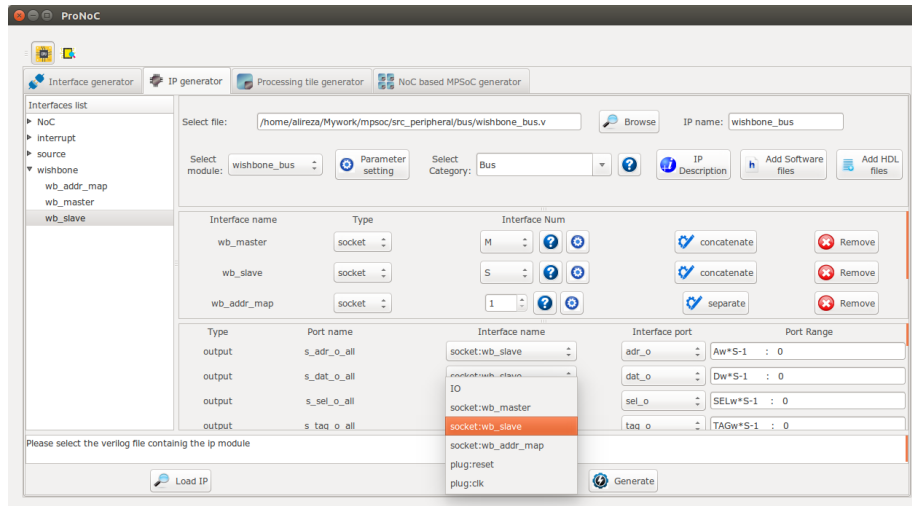

Figure 3.3: Wishbone Bus module interface mapping snapshot.
10. After adding the interfaces, you must mapped the top module ports to the interfaces ports. For each top-level module port you need to select the interface name and interface port. Figure 3.3 illustrates a snapshot of interface mapping for Wishbone Bus module.